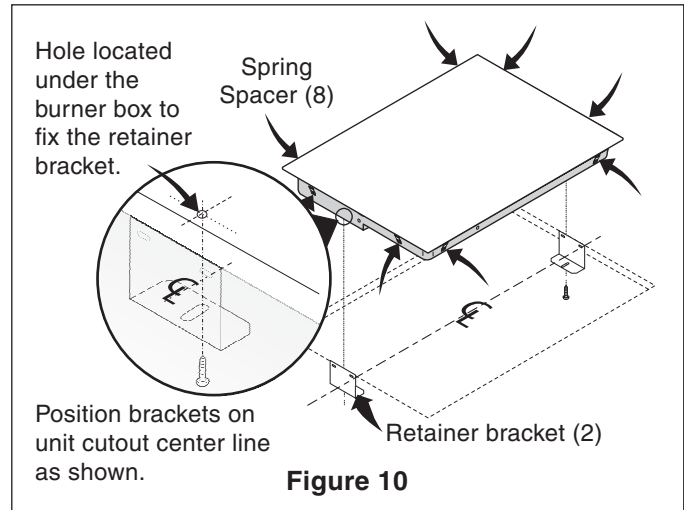

Figure 10
⚠WARNING Do not remove the spring spacers on the edges of the cooktop. These spacers center the cooktop in the space provided. The cooktop must be centered to prevent excess heat buildup that may result in heat damage or fire (see Figure 10).
4. Fix the cooktop to the bracket using the screws supplied (see Figure 10).